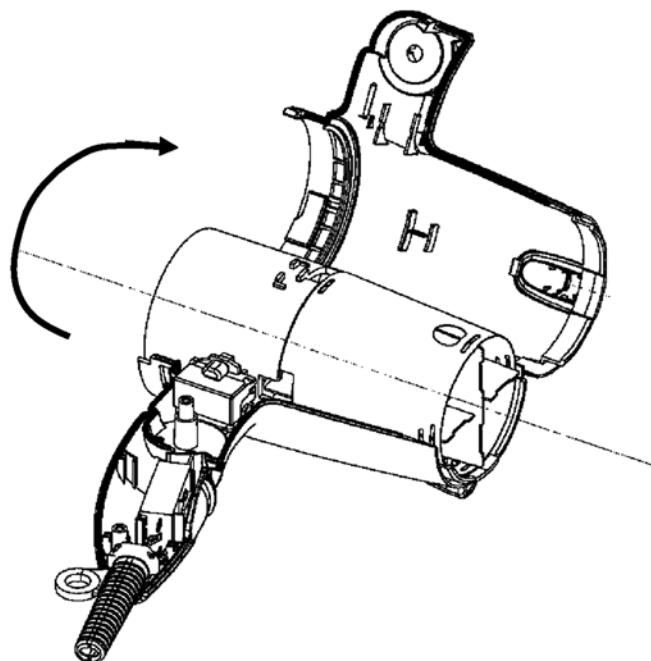

Figure 8
5. Take off a housing A from a housing B as figure 8.